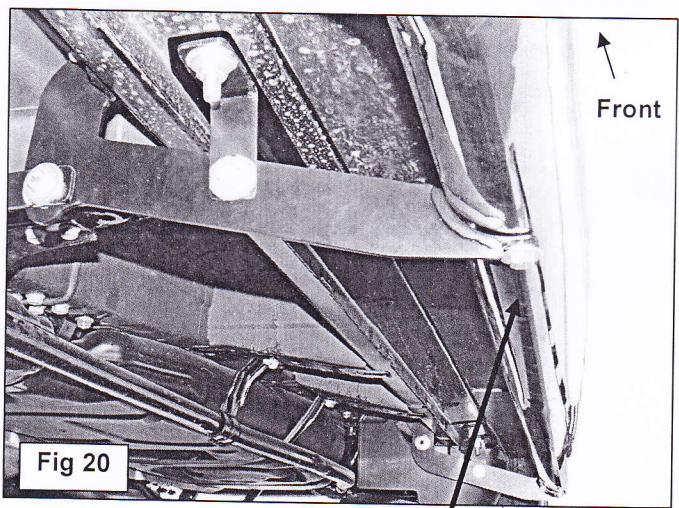

Fig 20
16. Select the driver/left Sidebar. Carefully place the Sidebar in position on top of the Brackets. Line up the threaded holes in the Sidebar with the slots in the Brackets. Bolt the Sidebar to the Brackets with (4) 8mm x 25mm Hex Bolts, (4) 8mm Lock Washers and (4) 8mm x 24mm STD Flat Washers, (**Figure 20**). Do not tighten hardware at this time.